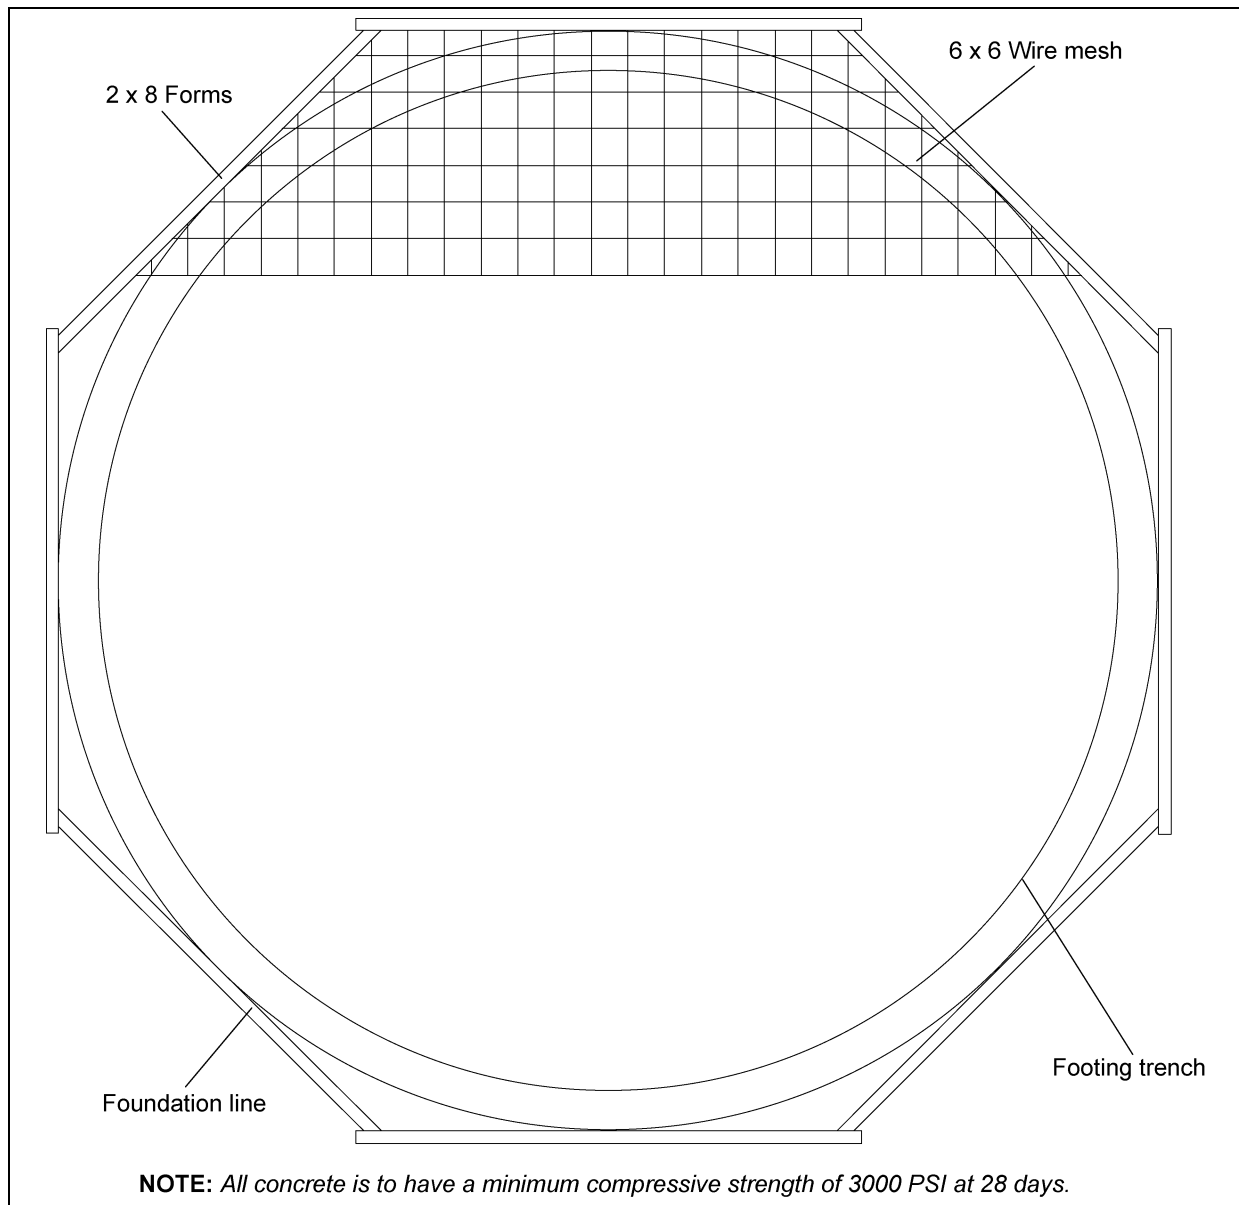

Figure 3C
Once the forms and trench have been prepared, begin the placement of reinforcement rods at various levels in the foundation's footing. See the appropriate charts and drawings for the bin to determine requirements and positions of the reinforcement. The reinforcement rods offer their greatest strength when lapped properly and connected by wiring or welding. Next, place a minimum of 2" of compacted sand on the inside section of the foundation to provide a good base for the concrete and protect against rodents. The sand should then be covered with four (4) mil polyethylene plastic which will act as a moisture barrier. Two (2) layers of 6 x 6 wire mesh should then be added to the entire area of the foundation to complete the preparation of the bins foundation. (See Figure 3C.)